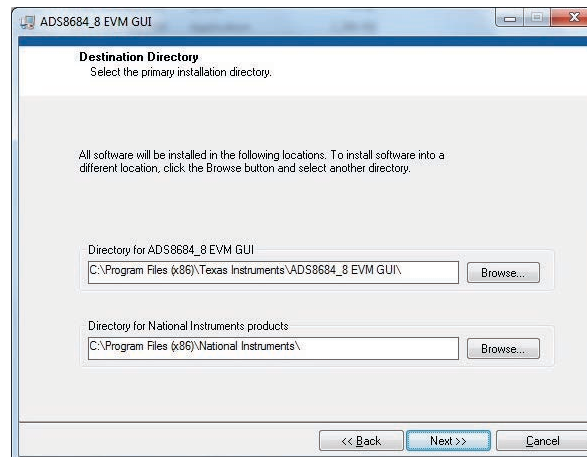

**Figure 8. LED Indicators on the SDCC Board**
6. Verify that the LED D5 power-good indicator is illuminated. Wait approximately ten seconds and verify that diode D2 blinks, indicating that USB communication with the host computer is functioning properly. Figure 8 shows the location of the LED indicators in the SDCC controller board.